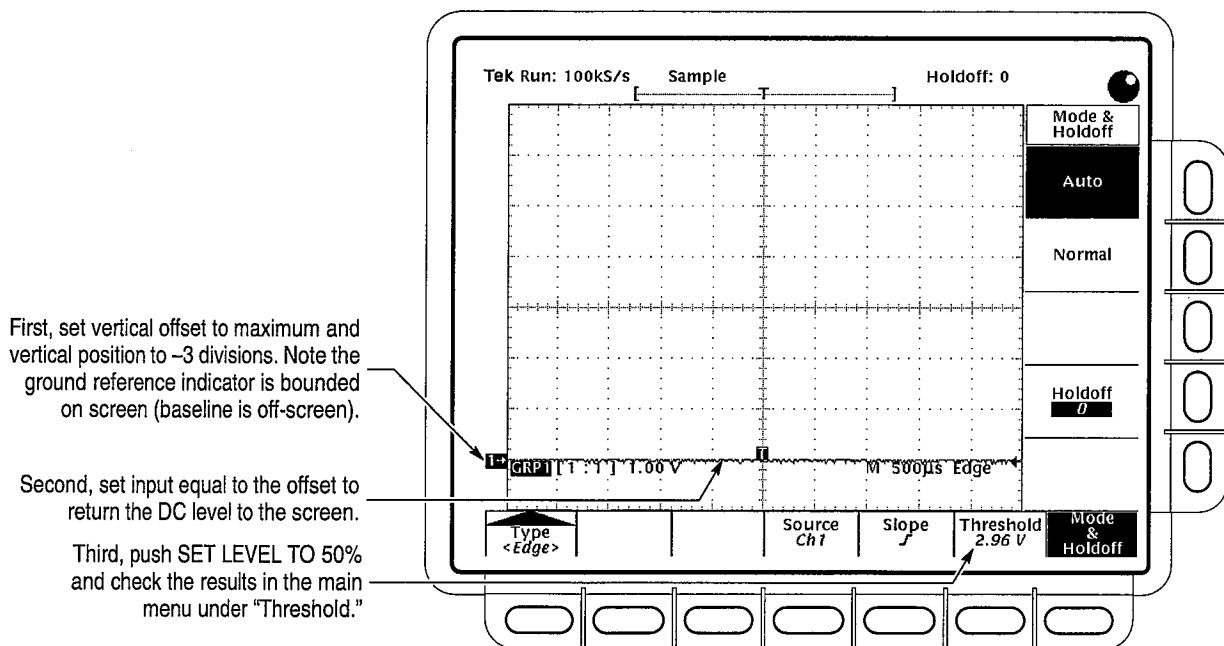

Figure 1-17: Measurement of Trigger-Level Accuracy
- f. Check that the **Threshold** readout in the main menu is between 2.54 V and 3.46 V. See Figure 1-17.